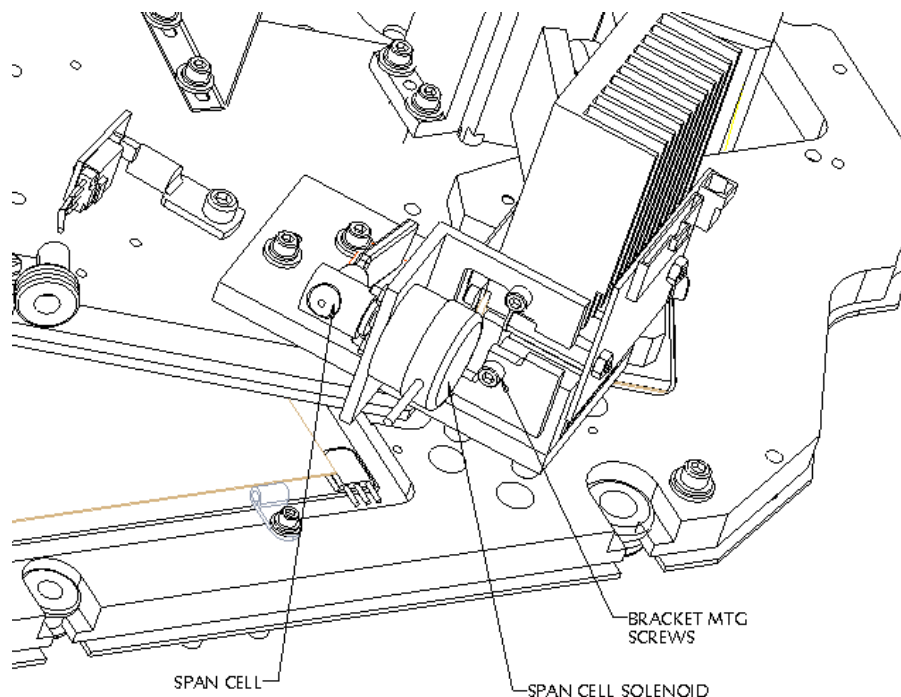

Figure 8-2: Span Cell
9. The E/O cal span cell is attached to the solenoid shaft that is attached to a bracket which is mounted to the side of the PDA heat sink (See Figure 8-2).